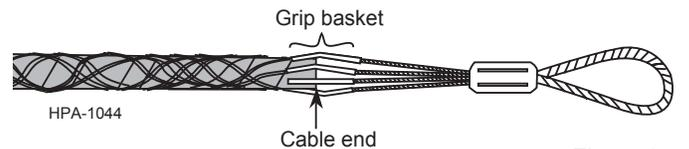

Figure 24
**5.15** Walk the grip over the friction tape-covered cable core until the cable end is in the middle of the grip basket (Figure 24).